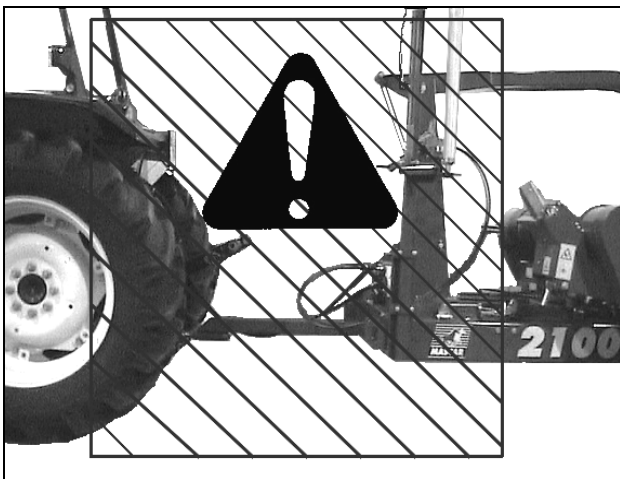

fig. 3 – Danger zone
- It is strictly forbidden to stand between the tractor and the machine with the engine running (Fig. 3), and likewise when the parking brake is not pulled on and its wheels are not blocked with suitably sized chocks.